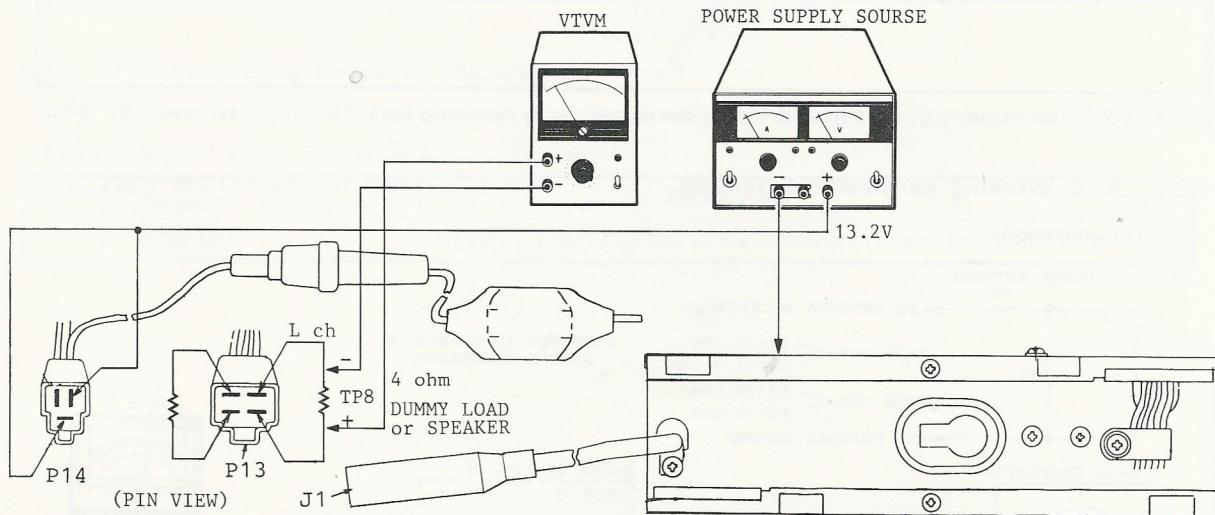

Fig. 8 (C33190231)
- a. Connections : Refer to Fig. 8.